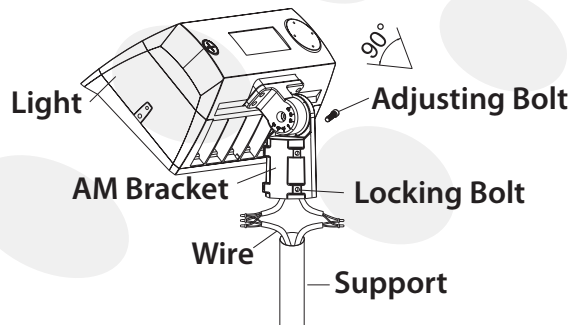

Figure 7
1. ADJUSTABLE FITTER MOUNTING (AM)
Step 1: Connect the wire correctly and put the wire into pole. Then fasten the locking bolts between slip fitter and the pole. (Figure 7)
Notice: Adjustable angle is $0 \sim \pm 90^\circ$ (Figure 7)